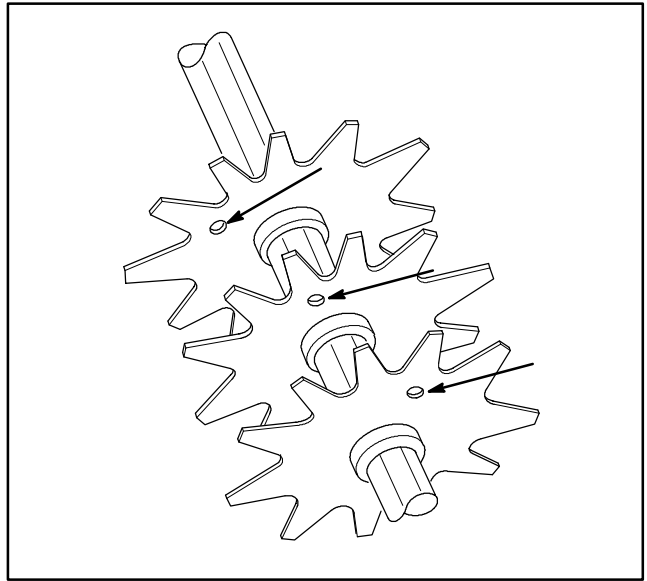

Figure 14
INSTALLING DETHATCHER BLADES (Fig. 14)
4. Install the next blade counter-clockwise so the index reference hole is not aligned with the first blade hole by one hex of the shaft (Fig. 14). Continue to install spacers and blades in this manner until the full complement of blades have been installed. When properly assembled, the blades will be staggered in such a manner to give a helix appearance.